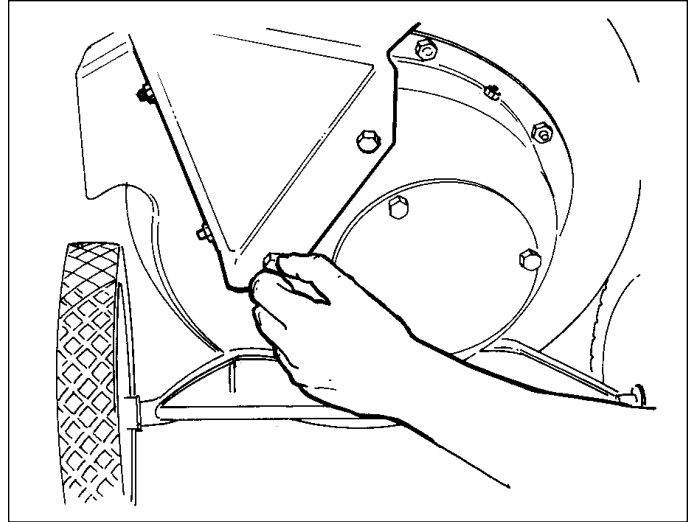

Figure 4. Attaching Hopper to the Rotor
1. See Figure 4. Attach the hopper to the rotor housing, using care to engage the metal lip of the hopper liner to the inside of the housing.
2. Secure the hopper to the rotor housing using (2) 5/16 x 1/2 hex head bolts and (2) 5/16 flat washers. Do not tighten hardware at this time.